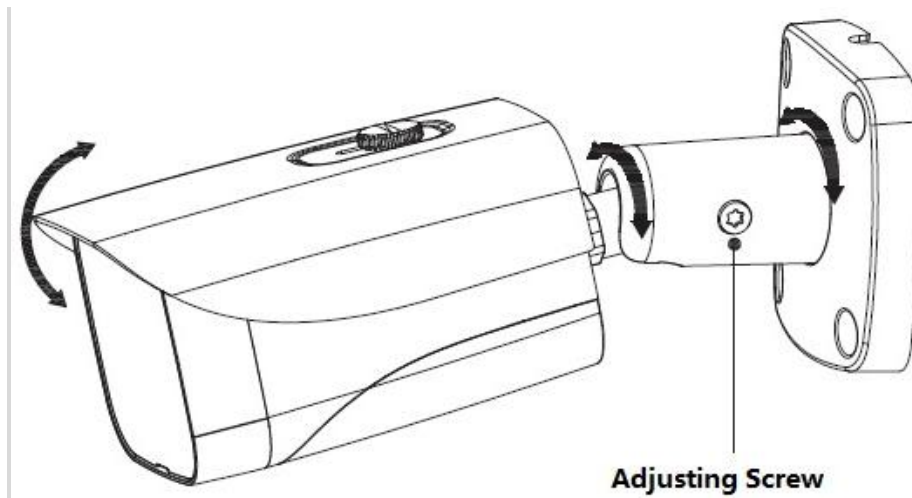

Figure 2-4
- Refer to figure 2-4 for positioning and adjustment.